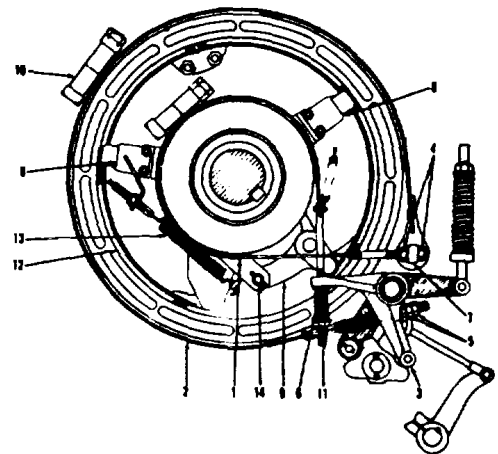

Figure 4-16. Boom hoist clutch and brake band removal and installations.
(4) Remove clutch and boom hoist guards.
(5) Remove boom hoist speed control chain (disconnect at any link) and safety pawl control rod.
(6) Remove boom hoist brake and booster bands.
(7) If front rope lagging is on, remove rope guard at the drum flange.
(8) Remove retract brake band. (fig. 4-16).
(9) Remove clutch shifter yokes by first removing integral head plate and yoke pin and the two yoke screws on each at the collar ends.
(10) Remove two long horizontal bolts supporting lever bracket on right hand bearing housing.